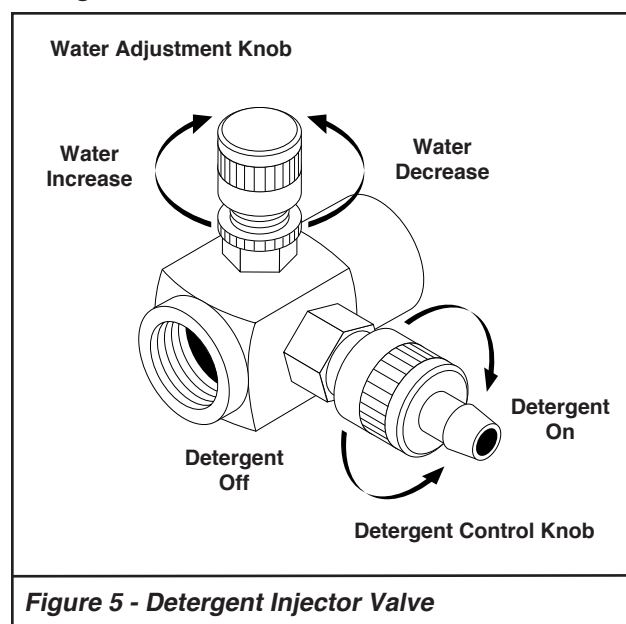

Figure 5 - Detergent Injector Valve
2. Completely open detergent control knob located on the side of the detergent injector valve. Refer to **Figure 5**.